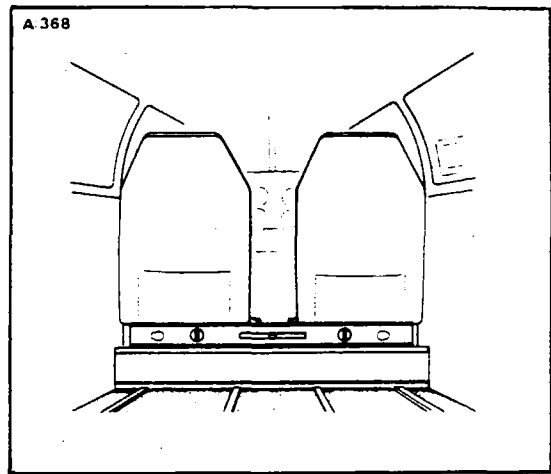

Figure 2-9. Leveling Laterally
- b. To laterally level the airplane, place a spirit level across the baggage compartment floor along the rear bulkhead (Refer to Figure 2-9.) and deflate the tire on the high side of the airplane or adjust either jack until the bubble of the level is centered.